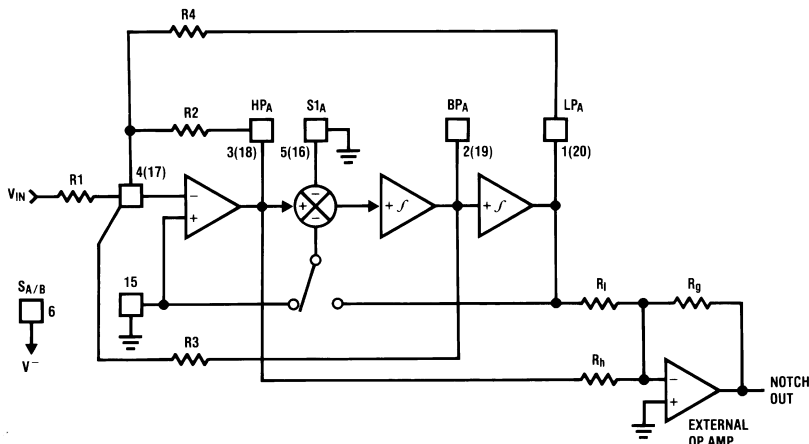
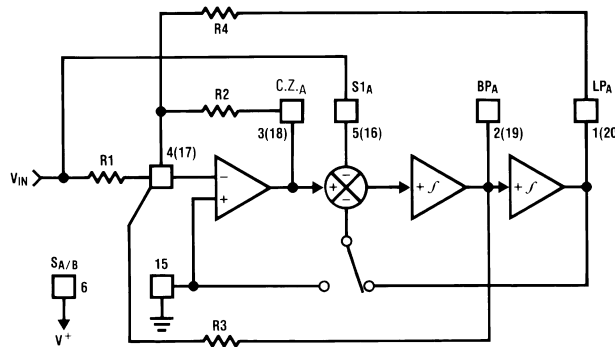
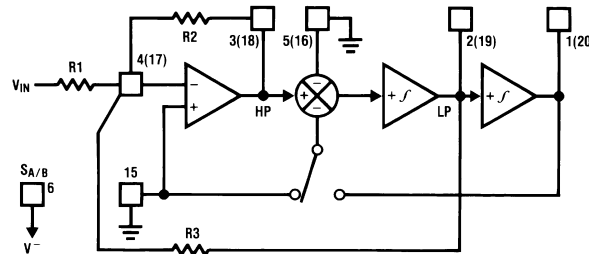
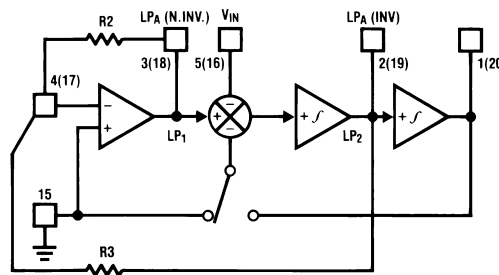

Figure 27. MODE 3a
Figure 29. MODE 5
Figure 30. MODE 6a
Figure 31. MODE 6b
**MODE 3a: HP, BP, LP and Notch with External Op Amp (See Figure 27)**
**MODE 5: Numerator Complex Zeros, BP, LP (See Figure 29)**
**MODE 6a: Single Pole, HP, LP Filter (See Figure 30)**
**MODE 6b: Single Pole LP Filter (Inverting and Non-Inverting) (See Figure 31)**
The MF10-N is a general-purpose dual second-order state variable filter whose center frequency is proportional to the frequency of the square wave applied to the clock input ( $f_{\text{CLK}}$ ). By connecting pin 12 to the appropriate DC voltage, the filter center frequency  $f_0$  can be made equal to either  $f_{\text{CLK}}/100$  or  $f_{\text{CLK}}/50$ .  $f_0$  can be very accurately set (within  $\pm 6\%$ ) by using a crystal clock oscillator, or can be easily varied over a wide frequency range by adjusting the clock frequency. If desired, the  $f_{\text{CLK}}/f_0$  ratio can be altered by external resistors as in Figure 25, Figure 26, Figure 27, Figure 29, Figure 30, and Figure 31. The filter Q and gain are determined by external resistors.
Also note that one output can have a reasonable small voltage on it while another is saturated. This is most likely for a circuit such as the notch in Mode 1 (Figure 23). The notch output will be very small at  $f_O$ , so it might appear safe to apply a large signal to the input. However, the bandpass will have its maximum gain at  $f_O$  and can clip if overdriven. If one output clips, the performance at the other outputs will be degraded, so avoid overdriving any filter section, even ones whose outputs are not being directly used. Accompanying Figure 23 through Figure 31 are equations labeled “circuit dynamics”, which relate the Q and the gains at the various outputs. These should be consulted to determine peak circuit gains and maximum allowable signals for a given application.